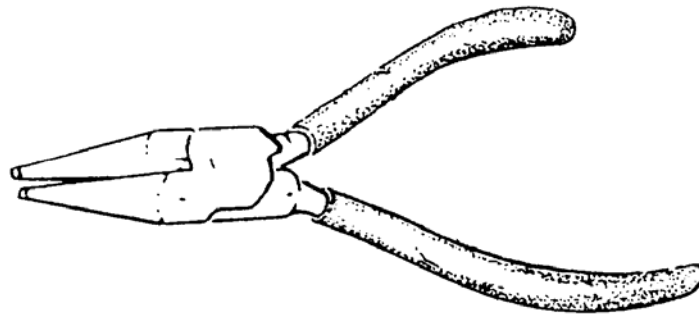

Figure A-7. Wire-Bending Tool
(5) Wire-bending tools (Figure A-7) have a smooth bending surface to prevent damage to component leads from nicks and cuts. These tools are used to bend heavy gauge wire and component leads.